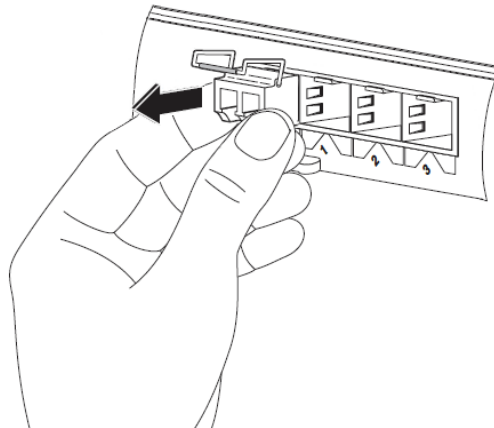

Figure 13: Removing an SFP+ Module from the port
4. Grasp the module between your thumb and index finger and carefully remove it from the port, as shown in Figure 13.